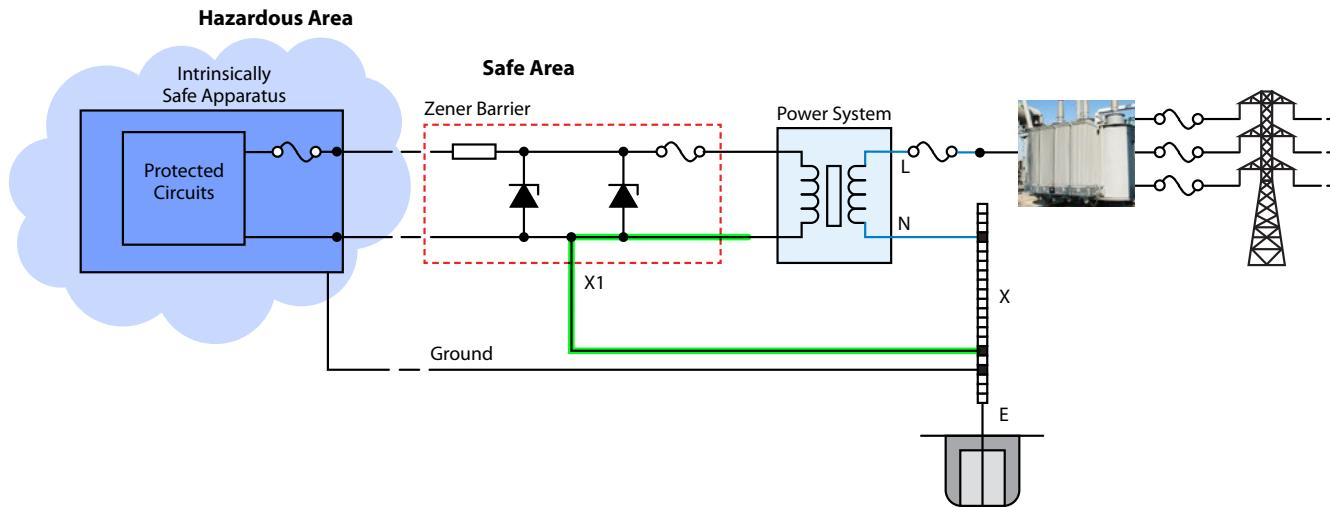

Figure 1. Intrinsic safety system using zener barrier.
Today, the installation, use, and maintenance of devices within potentially explosive areas requires that these devices be certified to provide protection against ignition. Intrinsic Safety (IS) is a practical method of achieving such protection. Figures 1 and 2 show examples of common intrinsic safety systems.